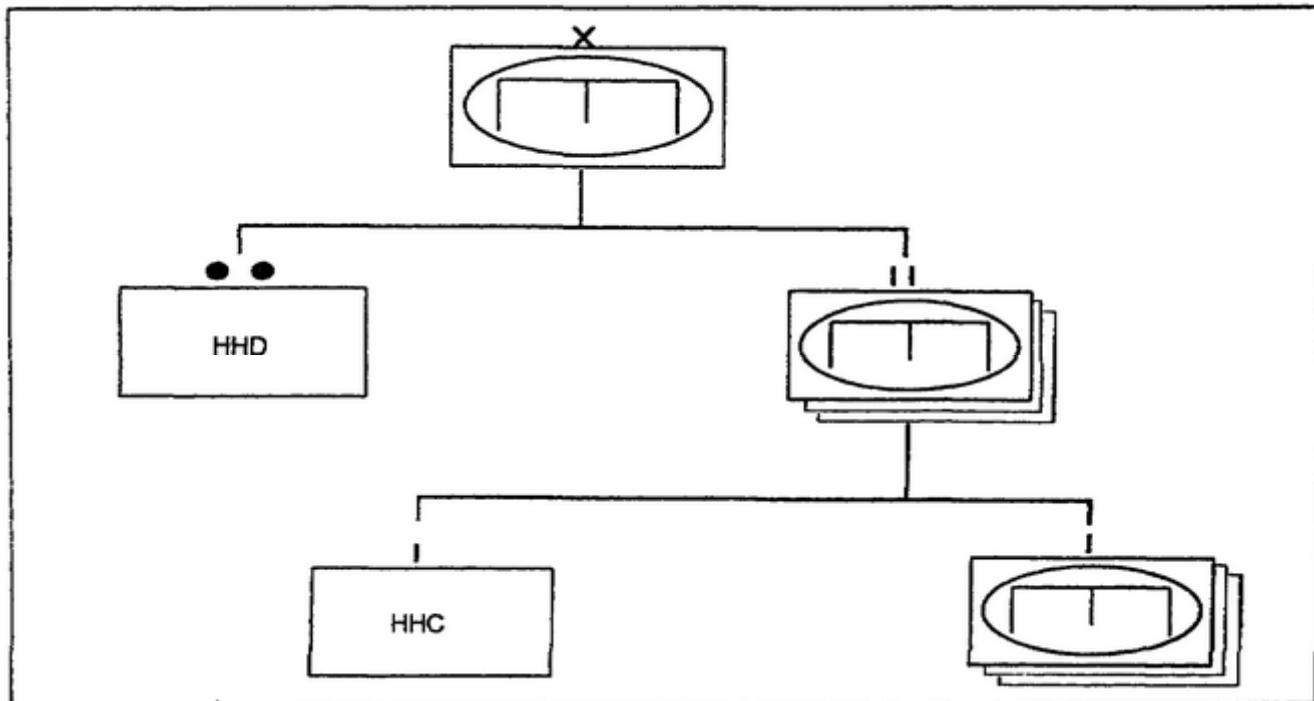

Figure 2-2. Division engineer organization.
(2) Figure 2-2 shows engineers organic to an armored division. These engineers replace the former organic division engineer battalion and the corps mechanized battalion normally associated with the division.